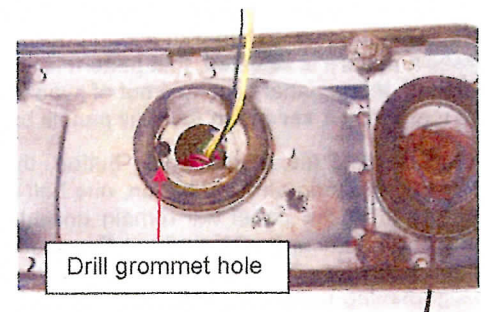

Figure 2
- 3.1. **OPTIONAL:** If sequential patterns are desired, drill 1 – 3/16" hole approximately 1" to the inside of the inboard bulb socket hole. (See Figure 2) The exact location of the hole is not critical but needs to be in the corner to not interfere with the light bulb socket snapping into position. Then install provided rubber grommet into the drilled hole. One method to simplify installation is to pinch grommet, insert protruding edge into the hole, then use a small flat blade screwdriver to push/work the remaining edge through the hole.